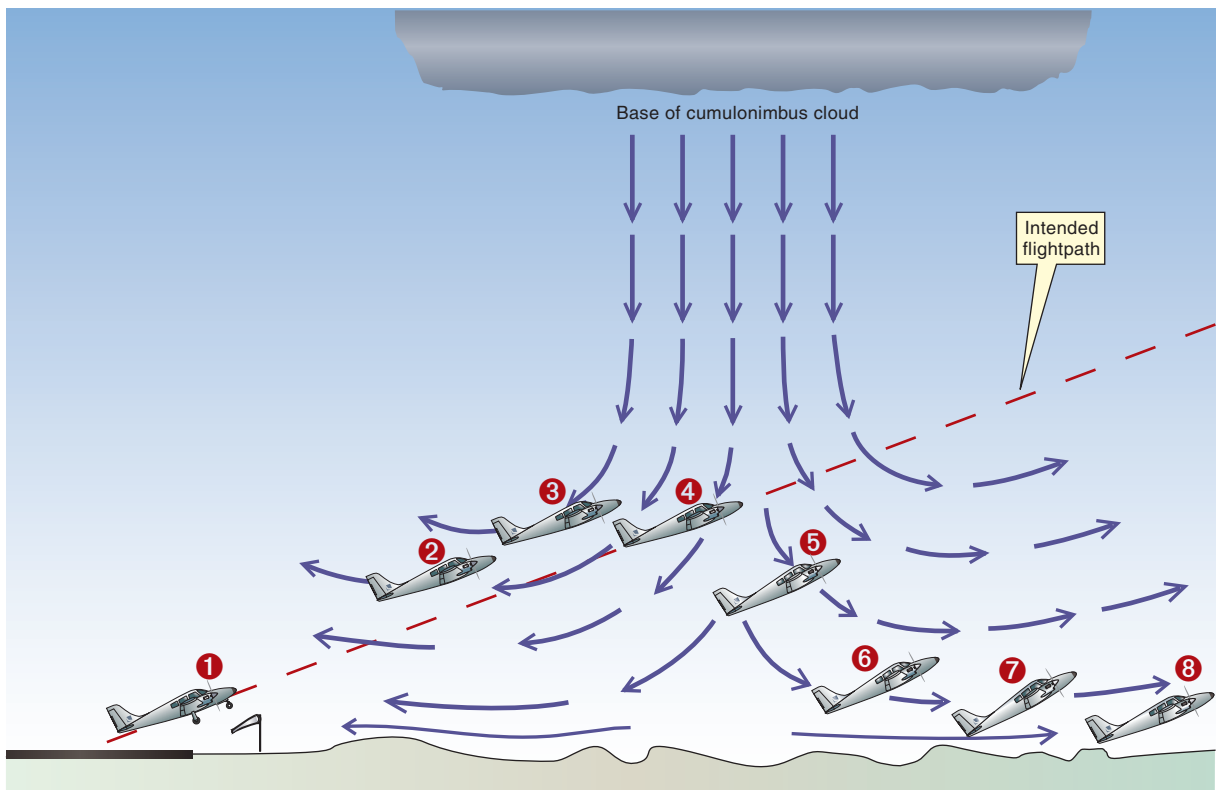

Figure 34-11 Microburst after takeoff.
34. Refer to figure 34-11 (page 715). Describe the effect on performance and the cause of this effect for the airplanes at the following positions: